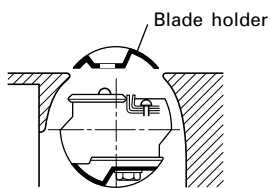

Fig. 10
- (2) Place the blade holder on the completed assembly, as shown in Fig. 10, and fasten it with the three bolts. Ensure that the bolts are securely tightened.